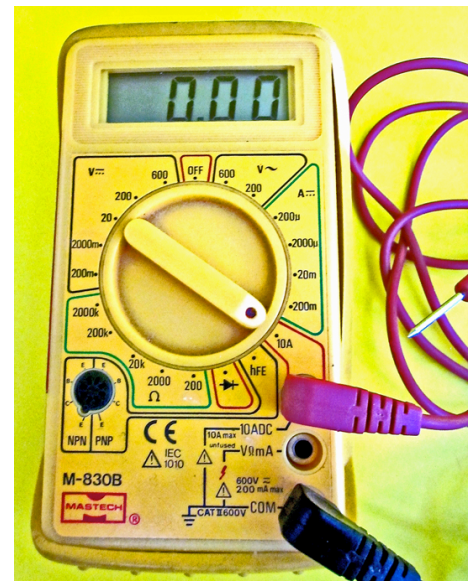

Figure 9
2. Hook up the device, the battery and the multimeter in the simple series circuit shown in Figure 8. Be sure the positive end of the battery is connected to the positive terminal in the device's battery compartment. The multimeter should be set to the 10A range, and the probes plugged into the appropriate terminals -- see Figure 9.. When correctly set up, the device should run properly when the device's on-off switch is turned on.